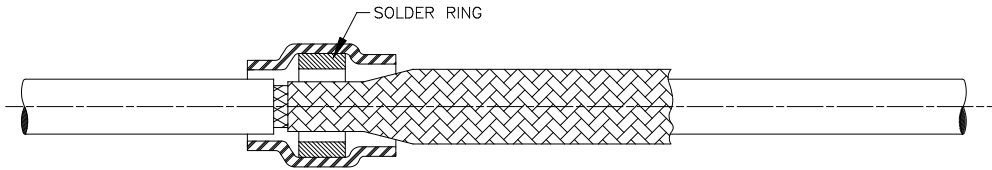

Figure 3
- B. Slide SolderSleeve into position so that solder ring is centered on shield-braid overlap. (Figure 3). Apply heat until solder ring melts and flows into the braid. SolderSleeve will shrink tightly onto cable jacket and jumper braid.